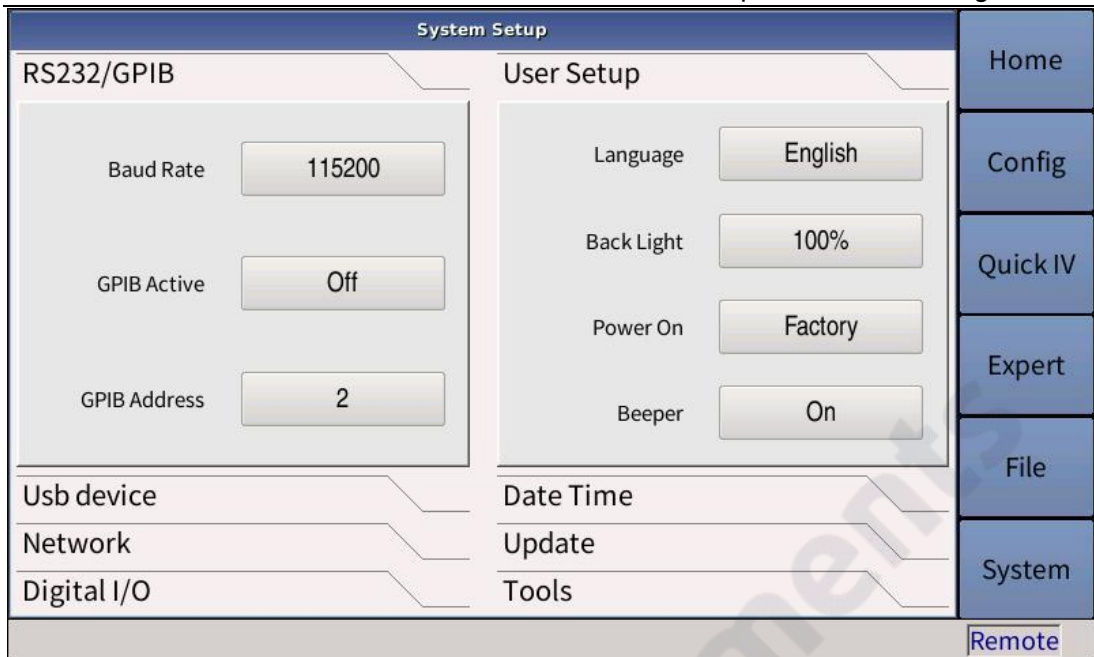

Figure 4-26 System Setup Page 1
**Operation: (see Figure 4-26)**
**Operation: See Figure 4-26**